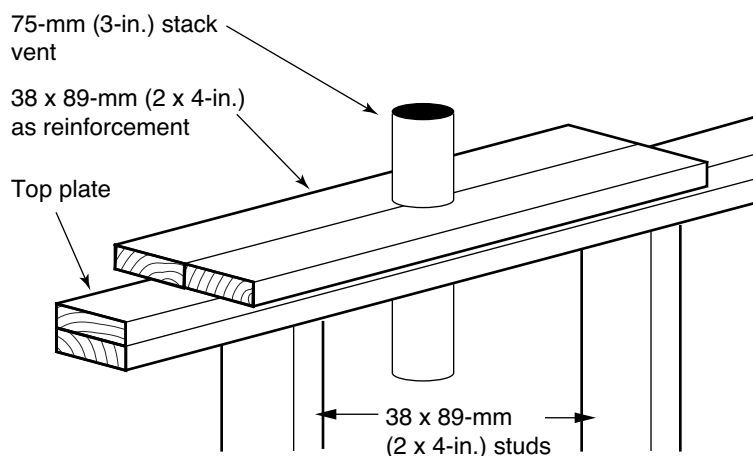

FIGURE 15
- ◆ Reinforce notched top plates in the same fashion if less than 50 mm (2 in.) in width remains (see Figure 15).